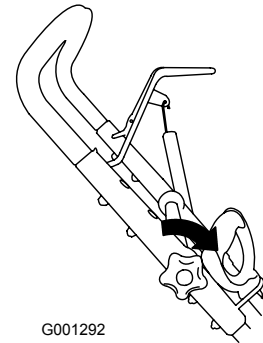

Figure 8
3. Tighten the handle knob (Figure 8).